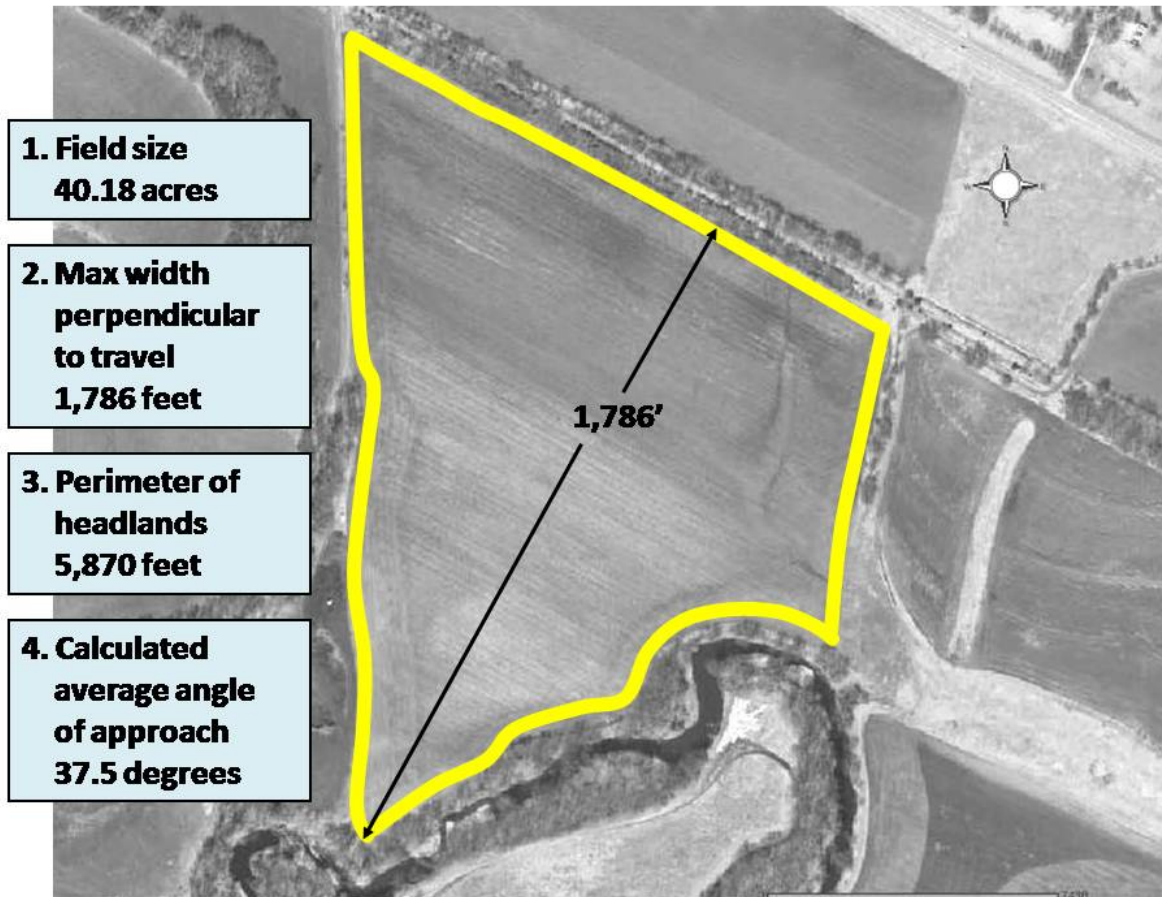

Figure 2 Representative field measurements
2. **Maximum width of field, perpendicular to direction of swaths (feet):** This value determines the number of swaths given machine width. The value for this cell can be determined by GPS or with a ruler on a scaled map (see Figure 2). Note that in Figure 2 the field is worked back and forth from southeast to northwest.
So, what does all of this mean for running distance of headlands? Given our understanding of traditional and modern farming practices, our simplest recommendation would be to merely include the entire perimeter of a field as the headland distance that should be applied in the tool (as shown in Figure 2). The one exception would be a representative field that was essentially square. But, even in that case we would not recommend using a distance equal to only half the perimeter, i.e., only two of the four sides. Rather, we would suggest using at least three fourths of the perimeter distance. Why? Because no field is ever perfectly square. And, because even square fields typically involve a partial swath as the last swath.